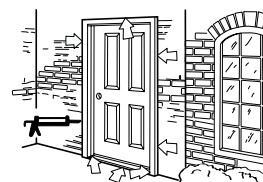

Fig. 13
12. Caulk around the outside of the door unit between the siding and brickmold, along the front side of the threshold and between the jamb sides and the threshold (Fig. 13).